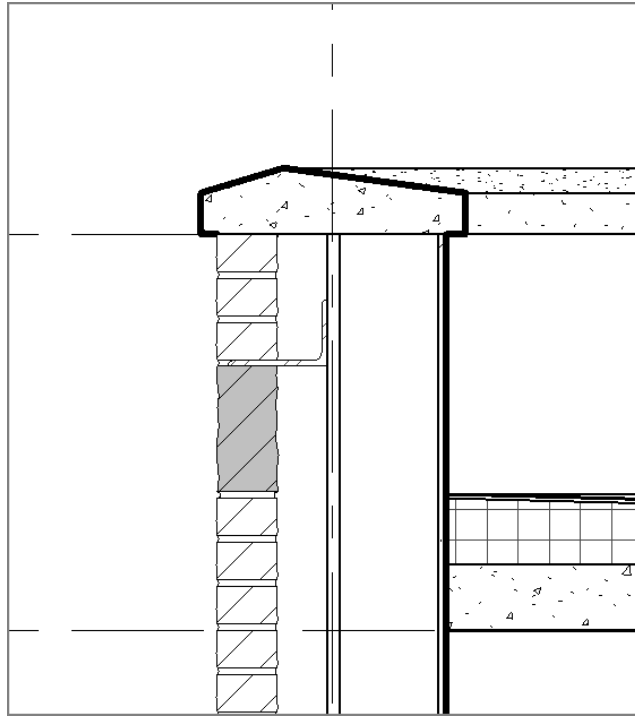

FIGURE 12.38: The angle in place and looking like an angle
9. Adjust the angle so it looks like Figure 12.38.